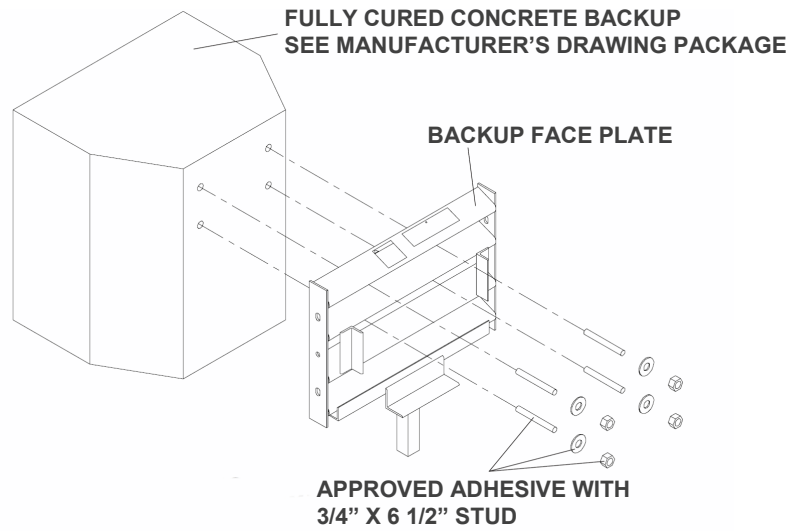

Figure 18
A) Concrete Backup Construction (Figure 18)